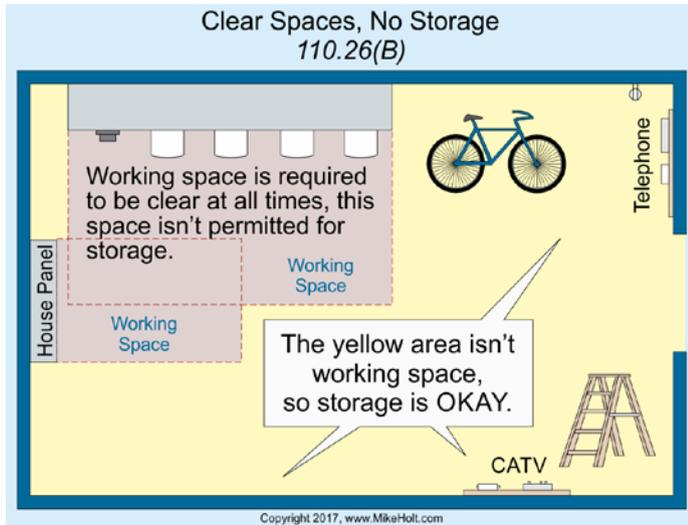

Figure 110-37
*Ex 3: For battery systems, see 480.10(D) for top clearance requirements.*
**(4) Limited Access.** Where equipment is likely to require examination, adjustment, servicing, or maintenance while energized is located in a space with limited access, all of the following conditions apply:
- (a)(1) Above Suspended Ceiling. Equipment installed above a suspended ceiling must have an access opening not smaller than 22 in. x 22 in.
- (a)(2) Crawl Space. Equipment installed in a crawl space must have an accessible opening not smaller than 22 in. x 30 in.
**(B) Clear Working Space.** The working space required by this section must be clear at all times. Therefore, this space isn't permitted for storage. Figure 110-37